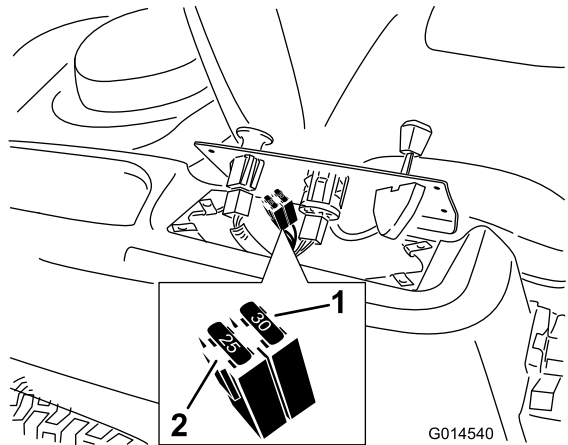

Figure 50
- Lift the control pane up to access the main wire harness and fuse block (Figure 50).
- To replace a fuse, pull out the fuse to remove it (Figure 50).